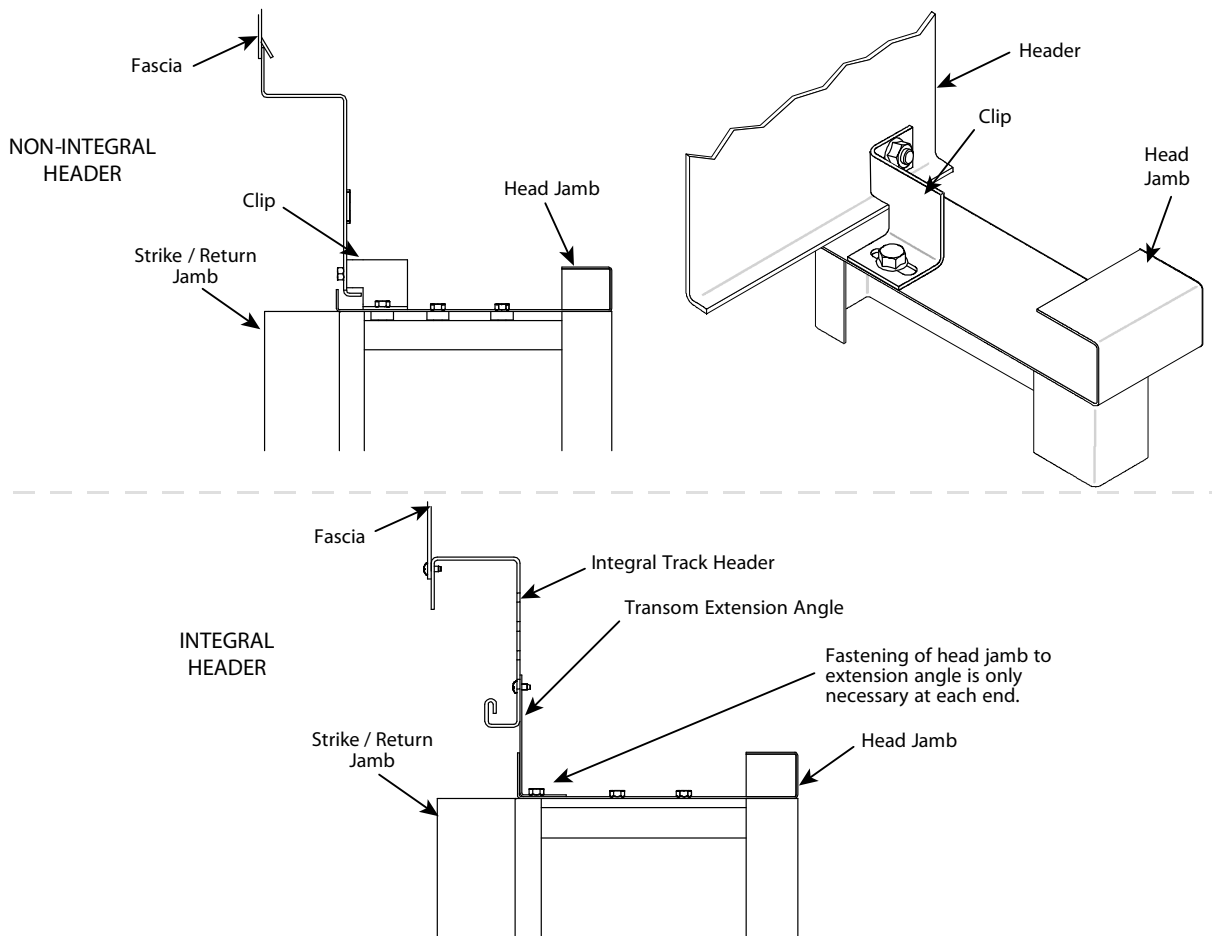

Figure 11 - Transom and Fascia Installation
- Connect the transom angle to the head jamb. See Figure 11 on page 17.